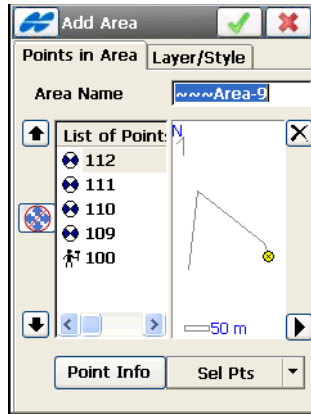

Figure 6-41. Edit Points in Area
- **Edit** – opens the applicable *Edit Area* screen (Figure 6-41 on page 6-34).
- **Add** – opens a blank *Add Area* screen to create a new area (Figure 6-41 on page 6-34).
On the *Edit Area* screen (Figure 6-41 on page 6-34), you can edit the name, the points, and the layer of the selected area.
The *Points in Area* tab displays a list of existing points (*Area Name*) in the selected Area on the left side of the screen (Figure 6-41), and the general view of the area lines on the right side.